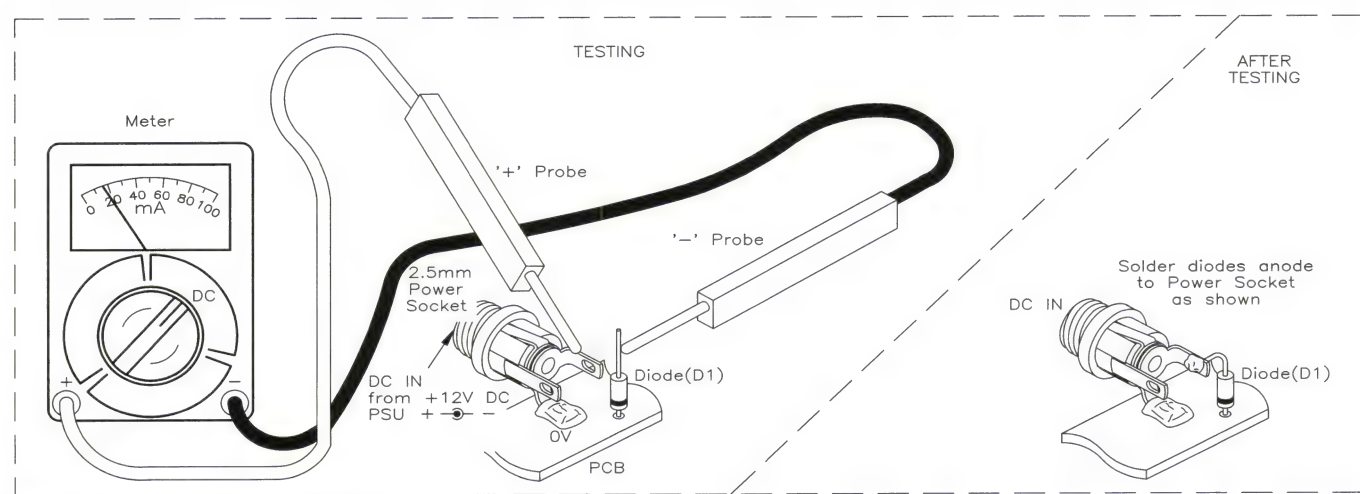

Figure 8. Testing of the PSU Interface.
Finally, fit the 1N4001 diode, D1, so its cathode (K), or banded end is soldered to the PCB – see Figure 8. DO NOT connect or solder its anode lead to the DC power input socket, SK3, until instructed to do so during the testing procedure.
The initial DC testing procedure can be undertaken using the minimum amount of test equipment. You will need a multimeter and a power supply capable of providing a regulated +12V DC at up to 300mA – see Figure 8. All the following readings are taken from the prototype using a digital multimeter, some of the readings you obtain may vary slightly depending upon the type of meter used.
Using the N to N coax cable, connect it between SK1 on the aerial and SK2 on the PSU Interface. Set your multimeter to read DC current. Next, apply power (+12V DC) to SK3, connect your multimeter's test probes to the anode of D1 and the centre tag of SK3 – see inset of Figure 8. When powered up you should observe a current reading of approximately 17mA. Power down the unit and remove the meter, then solder the anode lead of D1 to SK3 as shown in Figure 8. Set your multimeter to read DC Volts. Connect the negative test probe to the metal box and positive to the centre pin of the N socket SK2.